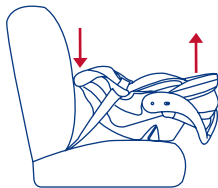
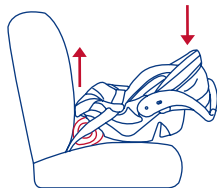

Fig. 48-2
Fig. 48-3
- If the Seat Angle Indicator shows **ANY red**, the Safety Seat is either **too upright** or **too reclined**. If the Safety Seat is too reclined adjust the Safety Seat as shown in Fig. 48-2 until the level indicator shows **NO red**. If the Safety Seat is too upright, place a tightly rolled towel, or car seat noodle, under the foot end of the Safety Seat until the level indicator shows **NO red**. (Fig. 48-3) Re-tighten the vehicle seat belt as instructed in section **Securing the Safety Seat or Base in the Vehicle**.